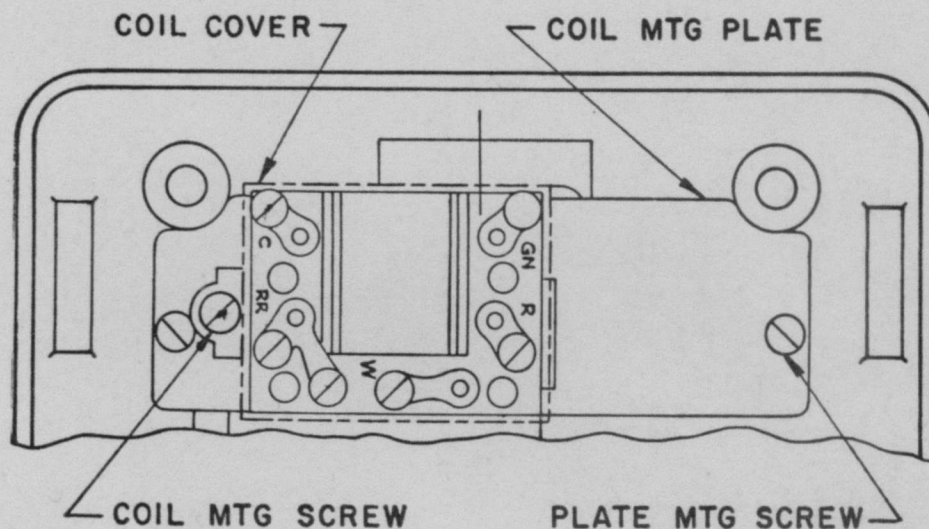

Fig. 29—Induction Coil Mounting
13.12 Check induction coil for positions. If GN and R terminals are on the left-hand side, the induction coils should be removed and mounted as shown in Fig. 29. It will be necessary to replace the mounting plate with a P-251945 coil mounting plate.